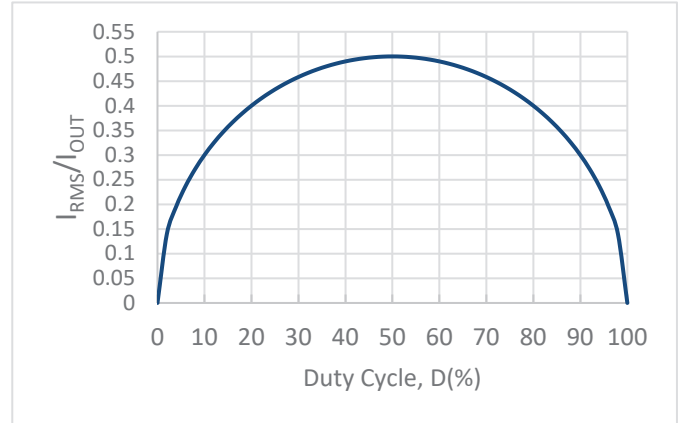

Figure 8: Normalized Input Capacitor Ripple versus Duty Cycle
Figure 8 shows the normalized input capacitor RMS current versus duty cycle. To use this graph, simply find the operational duty cycle (D) on the x-axis and determine the input/output current multiplier on the y-axis. For example, at a 20% duty cycle, the input/output current multiplier is 0.40. Therefore, if the regulator is delivering 1.0 A of steady-state load current, the input capacitor(s) must support 0.40×1.0 A or 0.4 A RMS.